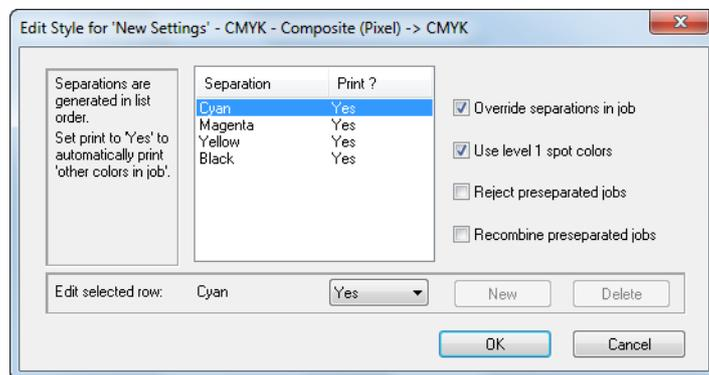

Figure 13.11 Edit Style dialog box
- * Otherwise, a more compact dialog box displays only the options for separations, as shown in Figure 13.11. This form of the dialog box suits contone output and also output to devices and processes that do their own screening.
This dialog box contains a list showing the separations that the RIP can produce. There are initially separations for the process colors in the selected color space. In Figure 13.11 there are separations for the four process colors in the CMYK color space.